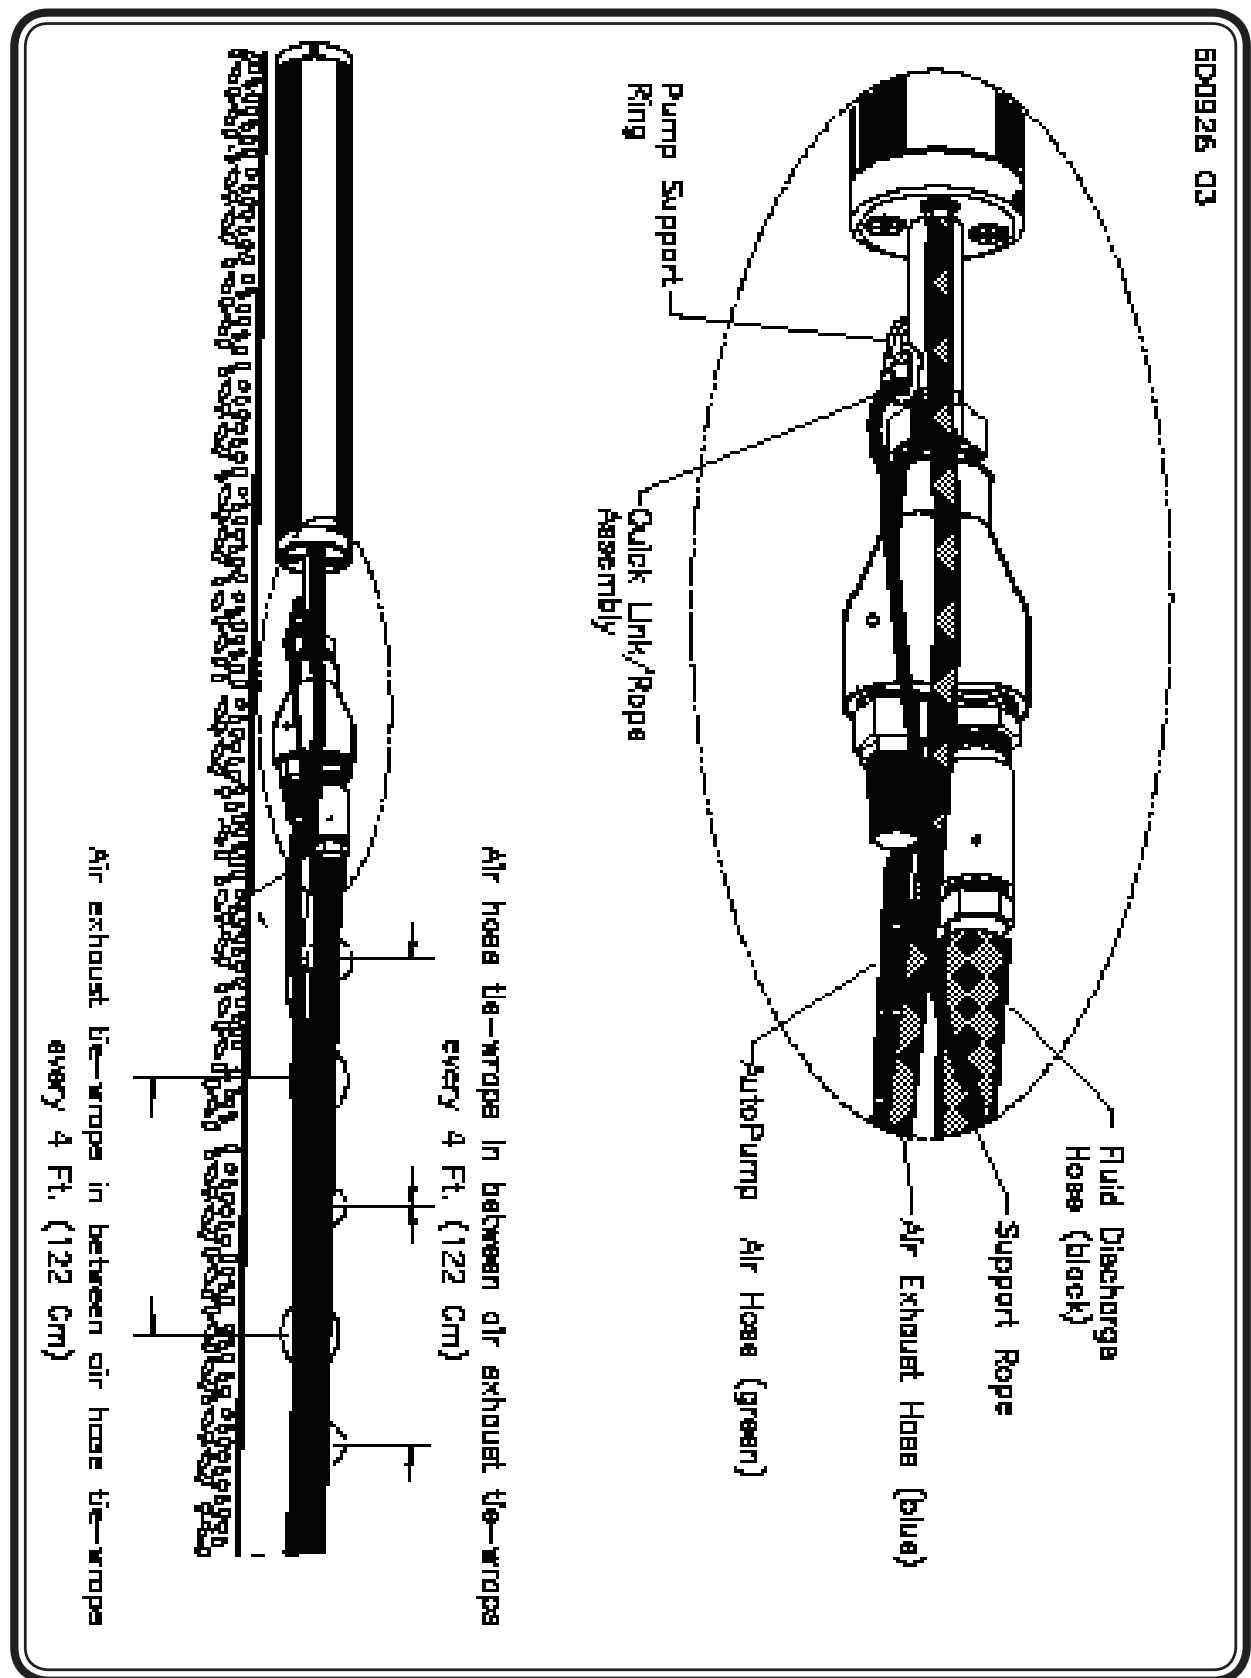

Figure 18 - Hose Bundling: Part 1 of 2
-  Make sure that none of the hoses or support ropes are crossing over each other. **(See Figure 18)**
(See Figure 18 and Figure 19)
-  When you connect the tie-wrap make sure it is straight and is not kinking the hoses. **(See Figure 18 and Figure 19)**